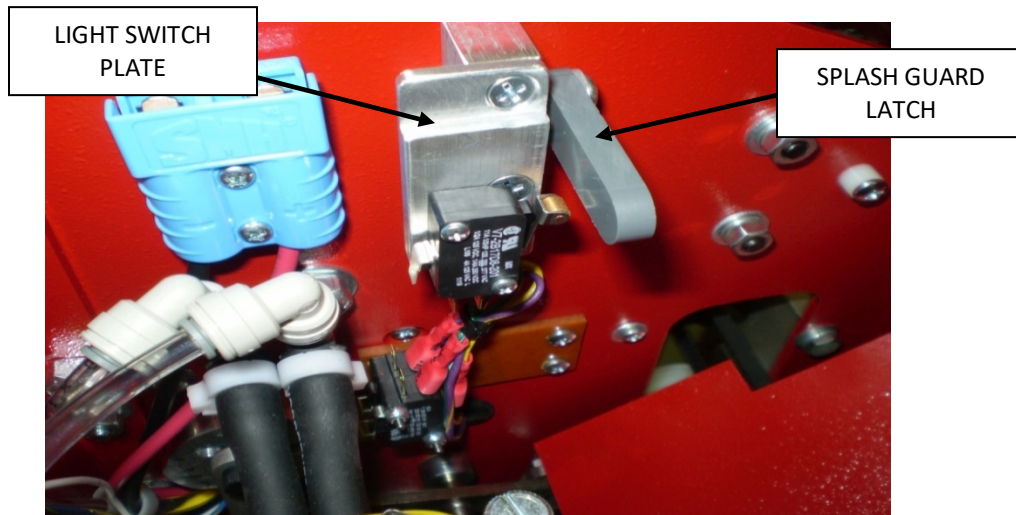

FIGURE 2
6. Remove the splash guard latch from the block that is mounted to the side of the machine. Locate the Light Switch Plate from the install kit and fasten this plate to the block assembly as show in the figure 2. Use the 3/8 length machine screw for the top and use the 1/2" screw for the bottom to attach.